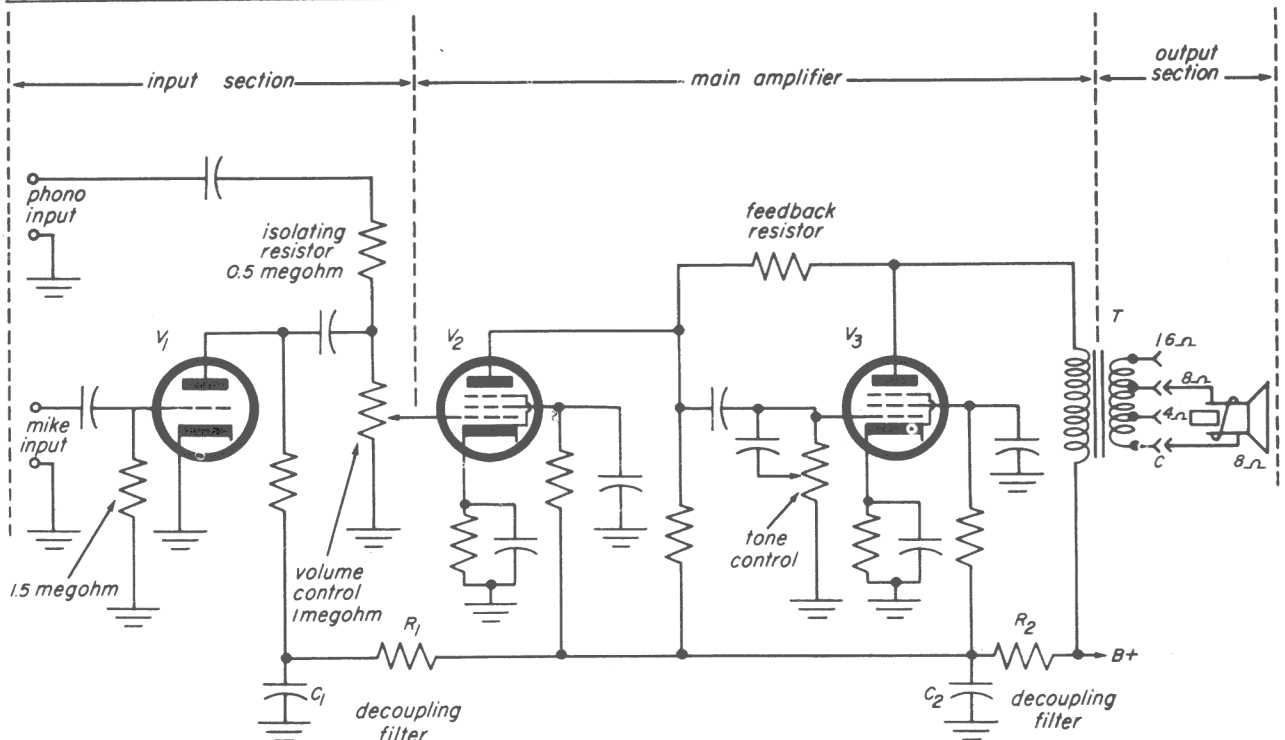
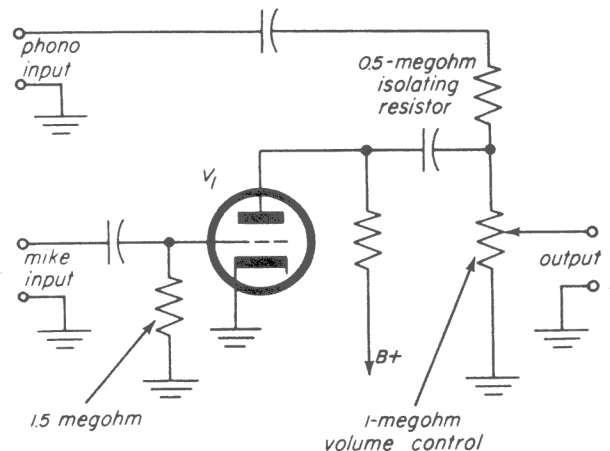
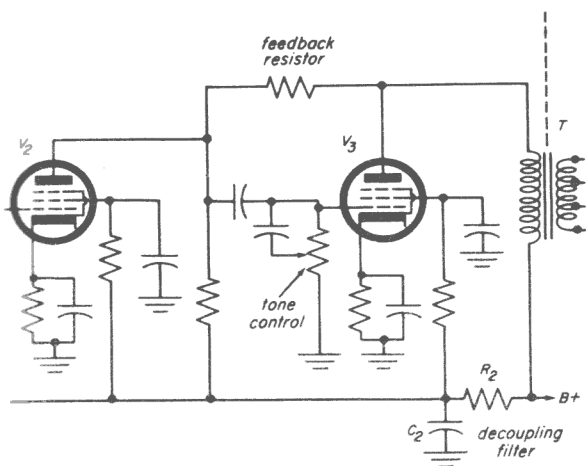

Fig. 27-1
Fig. 27-3
Fig. 27-9
Over-all Discussion. If you examine the schematic of a simple PA amplifier circuit in Fig. 27-1, you will probably recognize that it is a three-stage audio amplifier. The first stage, labeled *input section*, is a voltage-amplifier stage that you have not come across in radio receivers. Its purpose is to amplify the low input to the PA system enough to drive the middle stage.
Details of Circuit. The circuit shown in Fig. 27-1 can be used with either a microphone or a phonograph. When used with a phonograph, the phono input voltage is high enough to drive the amplifier without preliminary amplification. However, when a microphone is used with the circuit, the input voltage from the microphone is not high enough to be sent to the main amplifier. The gain needed is provided by V_1 , the microphone preamplifier in the input section.
Considered as a single unit, the input section and the main section make up a three-stage amplifier. All amplifiers that have three stages or more and that use all three stages to process the same signal, need decoupling filters in the B+ section. Let's consider the decoupling filters in the circuit of Fig. 27-1.
However, if there were no decoupling filter in the circuit of Fig. 27-1, some of the voltage from the plate of V_3 would be fed back to the plate of V_1 as well as to the plate of V_2 . The signal voltage that is normally present at V_1 is in phase with the V_3 signal voltage. The two signals are in condition to reinforce each other. This is positive feedback or regeneration. It causes distortion and other bad effects. At worst, regeneration — the feedback of an in-phase signal — becomes oscillation. An oscillating amplifier generates an unwanted sound all by itself with no input signal applied. It generates a sustained tone. The amplifier becomes an oscillator. This seems logical when you remember from the oscillator lesson that regenerative feedback is a necessary feature of oscillator circuits.
RC decoupling filters work much like the LC filters in power-supply circuits. In the case of a power-supply filter (Fig. 27-2a), unwanted ripple voltage is filtered from B+. The ripple is at power frequencies (60 to 120 cps). Again, in the case of the decoupling filter (Fig. 27-2b) unwanted ripple voltage is filtered from B+. But here the ripple is at audio-signal frequency (80 to 10,000 cps for the circuit of Fig. 27-1). In the case of the power filter, unwanted ripple is blocked out
In the output section of the circuit of Fig. 27-1, there are several taps on the secondary winding of the output transformer (T). These provide a way of matching speakers with different voice coil impedances to the output tube. The tap labeled C is the common tap to which one lead from the speaker load is always connected. Which of the other taps is used for the remaining lead from the speaker load depends upon the impedance of the speaker load that is connected. For example, a speaker with an 8 ohm voice coil should be connected to the tap labeled $8\ \Omega$ as shown in Fig. 27-1. When this is done, the transformer reflects the proper impedance to the plate of V_3 . The $8\ \Omega$ label can be understood to mean that *when an $8\ \Omega$ load is connected to this tap, the correct impedance will be reflected to the plate of the power output tube*. If you interpret all the tap labels in this way, it will be easy to remember the following rules governing use of the taps:
Figure 27-3 is a schematic of only the input section of Fig. 27-1. This is a mixer circuit. It has certain features that are important to understand.
1. The circuit of Fig. 27-3 is designed to mix a signal of low-voltage level, the signal from the microphone — with a signal
Another type of input that cannot be applied directly to the high impedance mike input terminals shown in Fig. 27-3 is the voltage output of some kinds of magnetic phonograph pickups. Here the problem is different from the low impedance mike. The voltage doesn't need to be stepped up, because the voltage level from the pickup is high enough already. The impedance can be matched by substituting a resistor equal in value to the pickup impedance in place of the 1.5-megohm grid resistor in Fig. 27-3. Although it is best to have the low-impedance magnetic pickup connected to input terminals of the proper impedance, even this is not the major problem.
More Complex Mixer Circuits. Now that the features of the mixer circuit of Fig. 27-3 have been examined, we can consider some more elaborate mixers and you will understand their features.
To begin, let us modify the circuit of Fig. 27-3, so that the volume of the microphone and phonograph signals can be controlled separately. Figure 27-4 shows how this can be accomplished. The microphone volume control is in the same position in the circuit of Fig. 27-4a as the over-all volume control in Fig. 27-3. In Fig. 27-4a a volume control potentiometer has been added across the phono input terminals. The output signals from the two volume controls are brought together at the junction of two isolating resistors. It is not possible to employ a single isolating resistor as in Fig. 27-3. Look at Fig. 27-4b. This is not a usable circuit. You can see that where one isolating resistor is used, the phono signal is shorted out when the mike volume is turned to zero even though the phono volume is set high.
various impedances at various settings of the microphone volume control. The output of the phono varies with the impedance it *sees*. The same can be said of the preamplifier (V_1). It is because two potentiometers are connected together that interaction occurs. No interaction occurs in the circuit of Fig. 27-3 where only one control is employed.
The interaction (Fig. 27-4a) is slight and the circuit is practical but there is a way to completely avoid interaction. We must explain why this way is not followed. As you may have figured out, separate control of microphone and phono volume can be accomplished with only one control in the output part of the circuit as in Fig. 27-3 by substituting a volume control for the 1.5 megohm fixed-value grid resistor of V_1 . The arrange-
The main amplifier section of Fig. 27-1 is redrawn in Fig. 27-9. The function of this circuit is to develop audio power. Let's go into the why and how of audio power generation. The power is needed to drive loudspeakers. Speakers, connected to the secondary of the output transformer, draw power from the power output tube, V_3 . It is in the power output stage V_3 that the audio power is generated. Sometimes more than one power tube is used in the output stage. All the tubes in the output stage assist in generating the power, but no other tubes in the amplifier do. The voltage amplifier, V_2 , controls the power that is generated in the output stage by means of an audio voltage. This audio voltage is produced at the plate of the voltage amplifier, V_2 ; then it